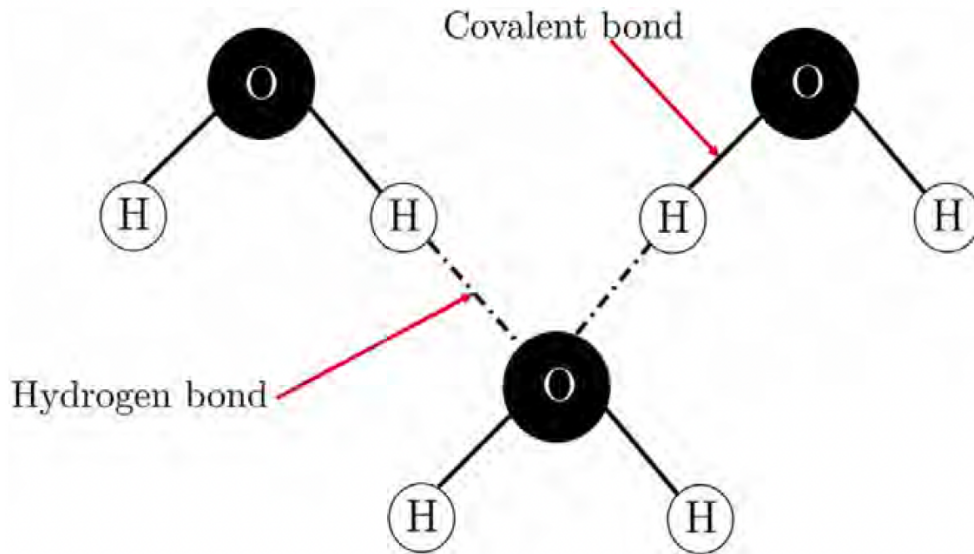

Fig. 1.18: Hydrogen bonding in water
• **Fig. 1.18: Hydrogen Bonding in Water**